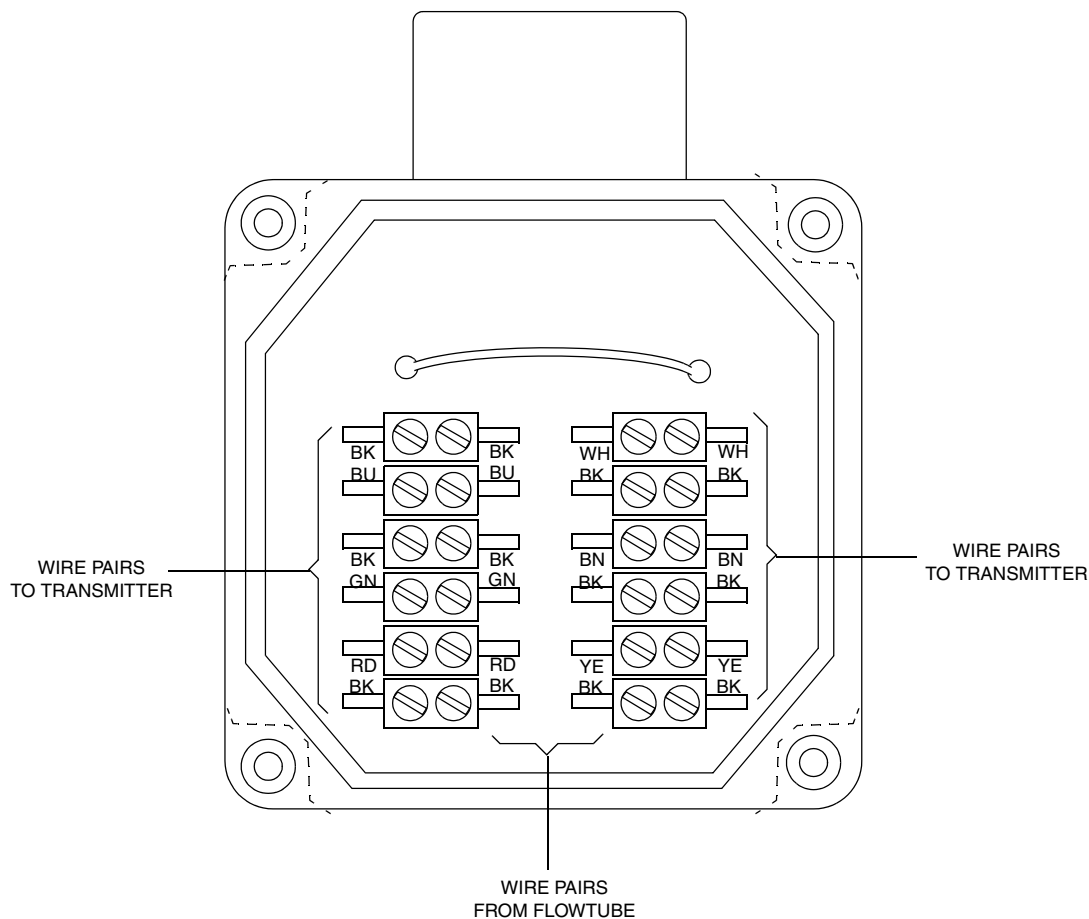

Figure 16. Terminal Box Wiring Color Orientation
7. Reconnect the flowtube wiring to the appropriate terminals (see Figure 16) and tighten the screws.
2. Insert the ends of the individual wires into the appropriate terminal block openings, carefully matching the wire color pairs of the cable to the wire color pairs of the flowtube (see Figure 16). Tighten the screws. No bare wire should be visible. Dress the wiring and secure the cover to the junction box. Refer to MI 019-132 and MI 019-133 for CFT50 or MI 019-140 for CFT51 wiring instructions.